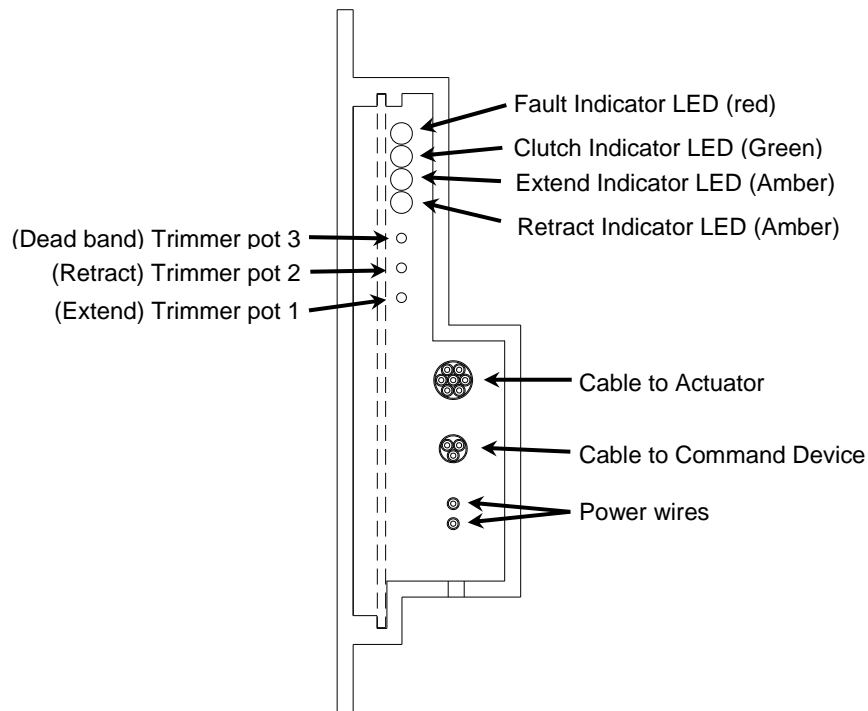

Figure 5-1. Proportional ECM (component end view)
Four LEDs are located in the ECM to aid in setup and troubleshooting (see figure 5-1). See also table below.
3. Turn Extend trim pot—see figure 5-1 (CW to extend) until you reach the desired maximum extend position. Observe the amber Extend LED (see figure 5-1). It must be off at the maximum extend point.
2. Turn Retract trim pot—see figure 5-1 (CCW to retract) until it reaches desired retract position.
3. Observe the amber Retract LED (see figure 5-1). It must be off at the minimum retract point.
The deadband adjustment is a control signal sensitivity setting. The purpose of the deadband control is to dampen the actuator response to a command input change. A sensitive setting will result in immediate movement of the actuator output rod when there is a change in the command signal and result in some overshoot. A less sensitive setting will result in a slight delay in the actuator output rod movement with a change in command signal but result in less overshoot. It is recommended that the ECM should be set to the most sensitive position possible, without experiencing actuator output rod “hunting”. Use trimmer pot 3 (deadband adjust)—Figure 5-1 for making deadband adjustment. Turn CW for a more sensitive response.